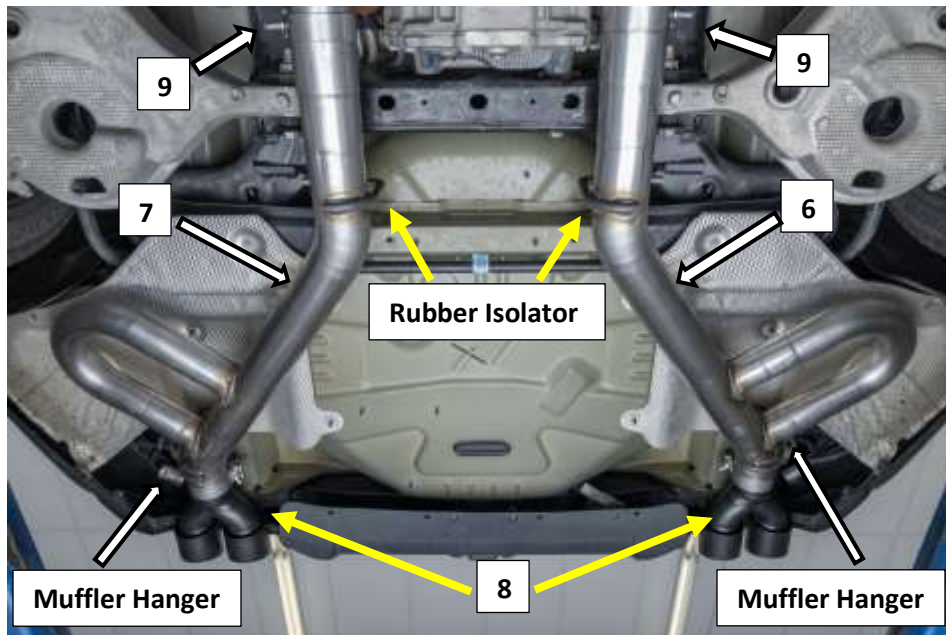

Figure 8
7. Install a 3 inch band clamp (9) on to each left and right tailpipe assembly (6) (7) expanded end with the bolt to the outside and the nut facing down. **Fig 8 & 9**
13. Install the supplied Black Tips (8) on to the ends of the tailpipes. **Fig. 8 & 10**